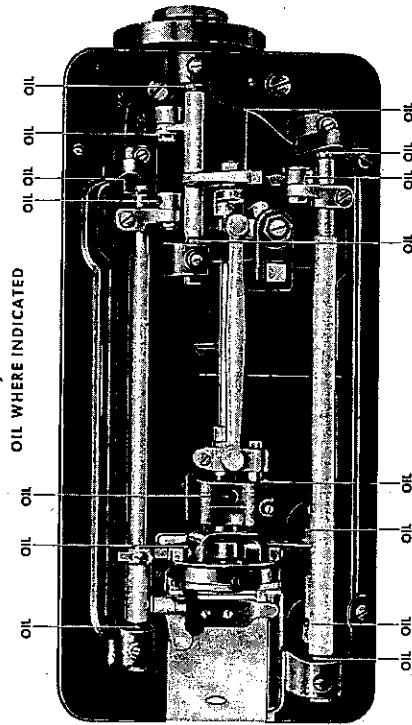

Fig. 3
3. Tilt the machine back on its hinges, so that the underside is accessible, and apply a drop of oil to all pivoting points indicated in Fig. 3 by arrows.